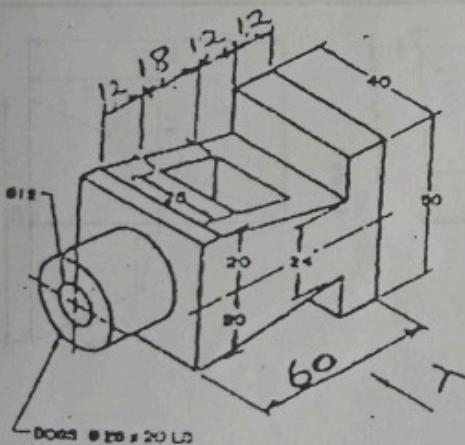

Figure 1
b. Using first angle orthographic projection, draw the front elevation, plan and the left hand side view of the object in Figure 1, viewed from direction T.